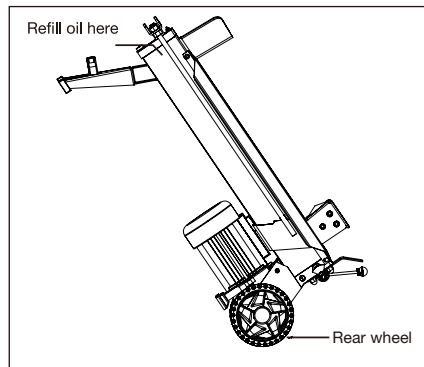

Fig. 9
4. Turn the log splitter and let it stand on the rear wheels, and refill the hydraulic oil into the hole behind the oil drain bolt with dipstick (Fig. 9).